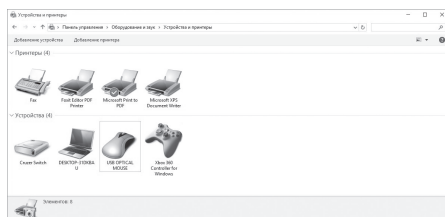
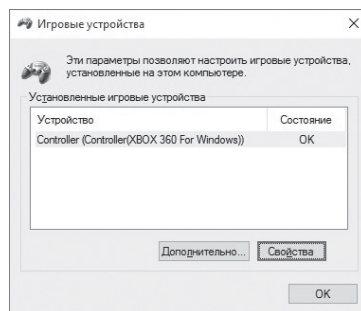
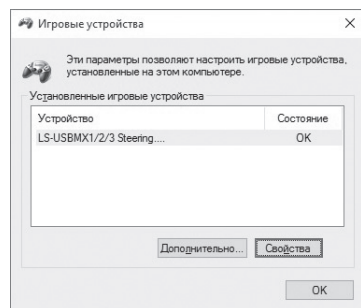

Fig. 4
Fig. 6
Fig. 7
- In order to check and adjust the steering wheel, you need to open the «Devices and printers» tab in the Windows control panel (in the «XInput» mode, the steering wheel is displayed as «Xbox 360 Controller for Windows», in the «DirectInput» mode - «PS3 / PC Gamepad»), then right-click on the device icon and select «Game Device Settings» (administrator rights may be required) (Fig.4,5). The «Game devices» window will appear. In XInput mode, the steering wheel is displayed as «Controller (Controller (XBOX 360 For Windows))» (Fig. 6), in the «DirectInput» mode - «LS-USBMX 1/2/3 Steering ...» (Fig. 7) . To switch between the «DirectInput» and «XInput» modes, you must press the «Mode» button for 5 seconds.